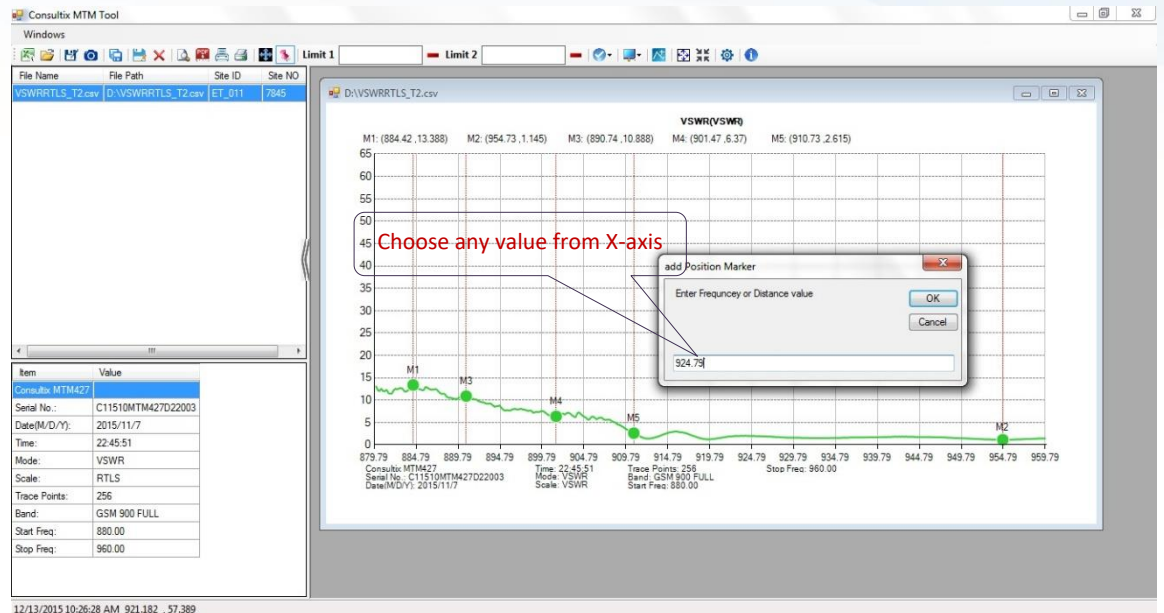

Figure 6, Editing Markers
2. Edit markers: from **Function Toolbar**, click **"Edit Marker"** button, right click the marker and choose **"Marker Position"**; **"Add Position Marker"** window appears, enter the marker value as shown in figure 6.